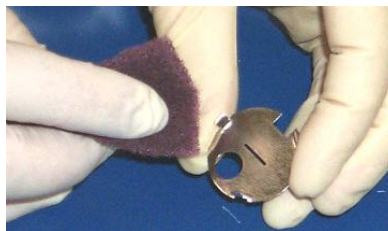

Figure 3-17 Cleaning the Ground Slit Plate
3. Use a Scotch-Brite™ pad to polish away any discolored areas of the ground slit plate (Figure 3-17).